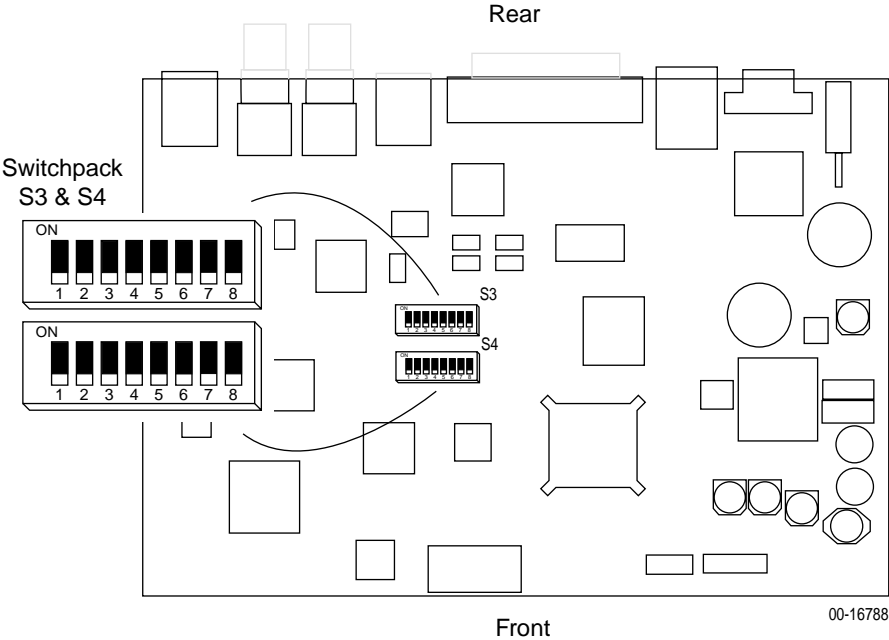

Figure 1. Hotwire TDM SHDSL Endpoint Switchpack Locations
3. Locate Switchpack S3 on the circuit board using Figure 1, Hotwire TDM SHDSL Endpoint Switchpack Locations.